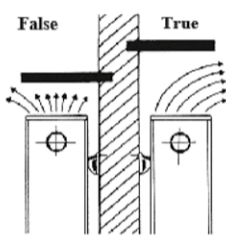

Figure 4: Diagram of radiator installed next to the window.
- In cases where the distance between the upper side of radiator and the window side is too narrow ( less than 90% of the depth for radiators in length of 500 mm and less than 75% of the depth for radiators in length of 300 mm), heat efficiency of radiators reduces (see Figure 4).